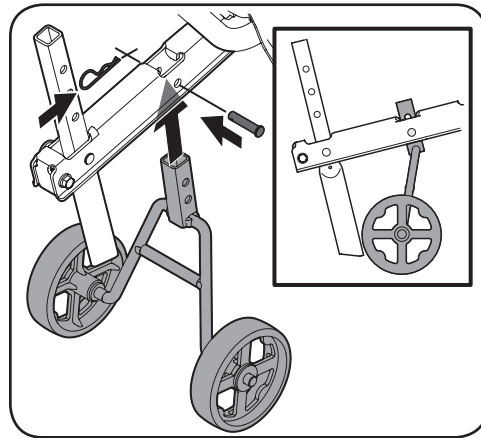

Figure 3-9
2. Slide the wheel assembly out of the bracket, rotate the wheel assembly 180° and reinstall as shown in Figure 3-9 using the clevis and cotter pin to secure in place.